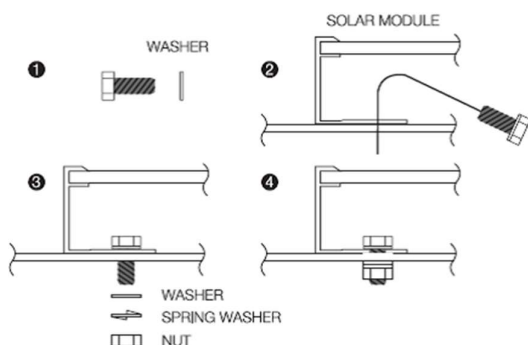

Figure 1. Mounting using bolts.
- The module must be attached and supported by four M8 stainless steel bolts through the indicated mounting holes (Figure 1). Torque on the clamp bolt has to be in range of 8-10 Nm.